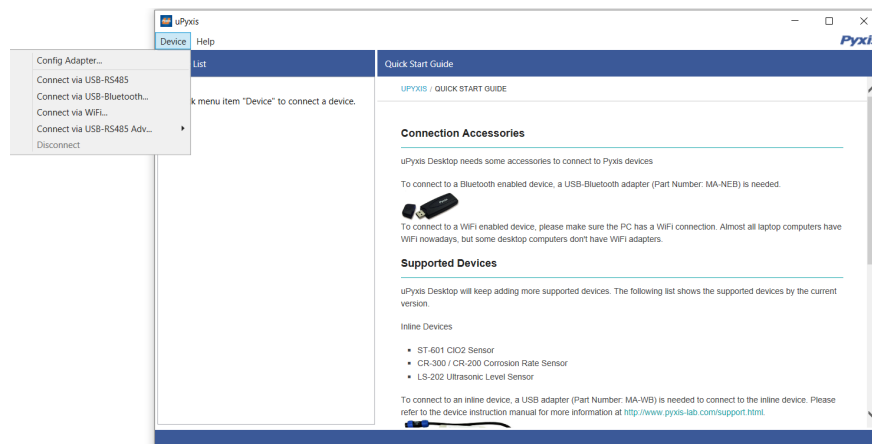

Figure 50.
4. On **uPyxis®** Desktop App, click Device → **Connect via USB-Bluetooth** (Figure 50).
5. If the connection is successful, the SP-710B and its Serial Number (SN) will be displayed in the left pane of the **uPyxis®** window.